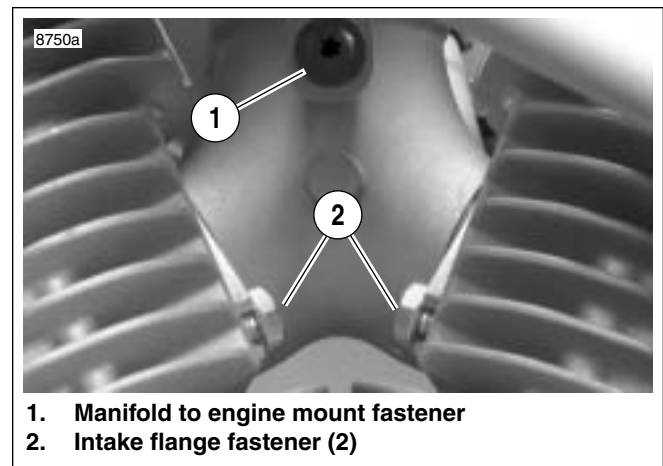

Figure 4-100. Intake Manifold (Primary Side)
- a. See Figure 4-100. On primary side, loosen but do not remove the two front and rear intake flange fasteners (2).
- b. Remove fastener (1) holding manifold to engine mount.
- a. See Figure 4-100. Slide the assembly toward installed position. Manifold should slide over fasteners (2) on primary cover side of engine.